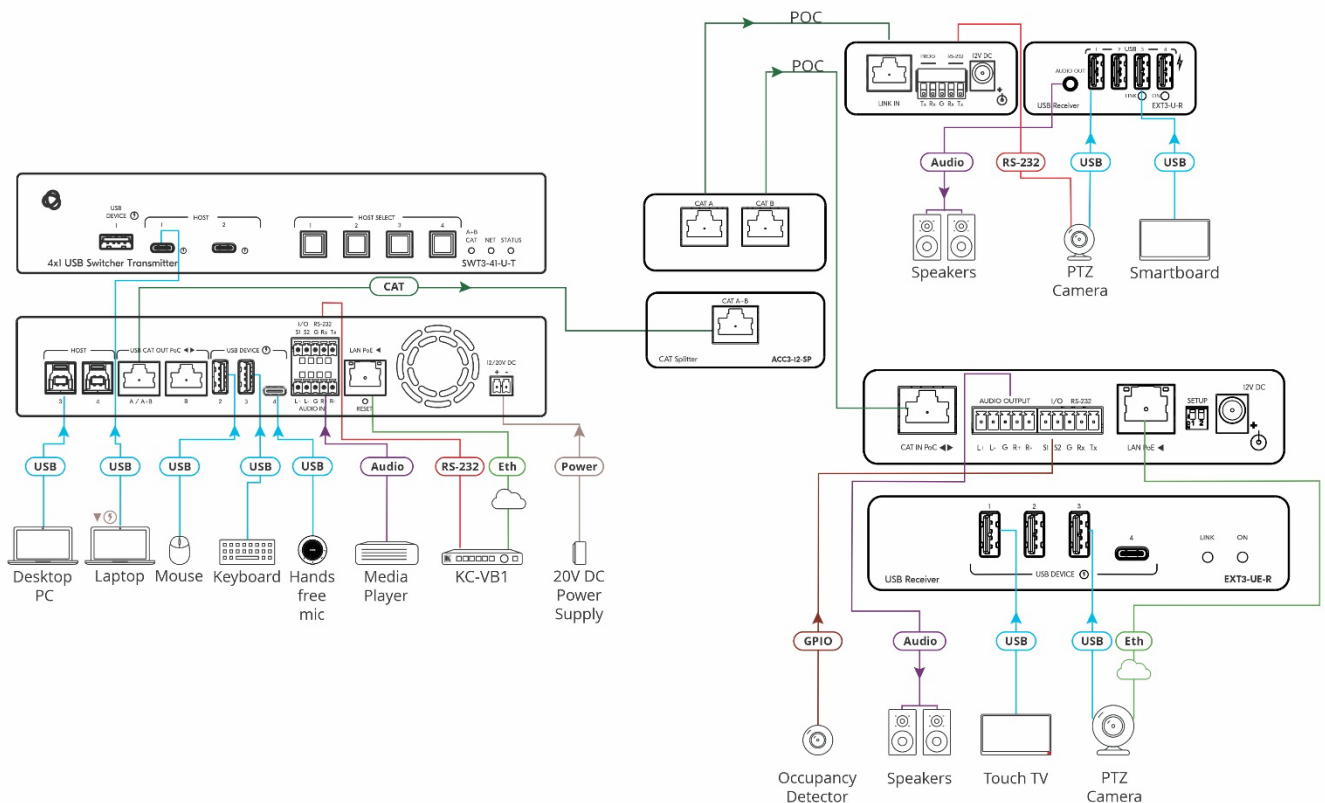

Figure 6: Connecting to the SWT3-41-U-T
**i** In (Figure 6) **SWT3-41-U-T** is connected to dual receivers using a CAT splitter to save CAT cables wiring expenses. If not CAT splitter is required, **SWT3-41-U-T** can connect directly to either one of the required receivers **EXT3-UE-R** and **EXT3-U-R** based on needs.
**To connect SWT3-41-U-T as illustrated in the example in Figure 6:**
- Connect the HOST USB-C 3.2 (2) port to a laptop.
- Connect the HOST USB-B 3.2 (7) port to a room PC.
- Connect the local USB DEVICE ports (1), (10), (11) to USB devices (for example, USB DEVICE 2 to a mouse, USB DEVICE 3 to a keyboard and USB DEVICE 4 to a hands-free mic).
- Connect a balanced stereo audio source (for example, media player) to the AUDIO IN 5-pin terminal block connector (17).